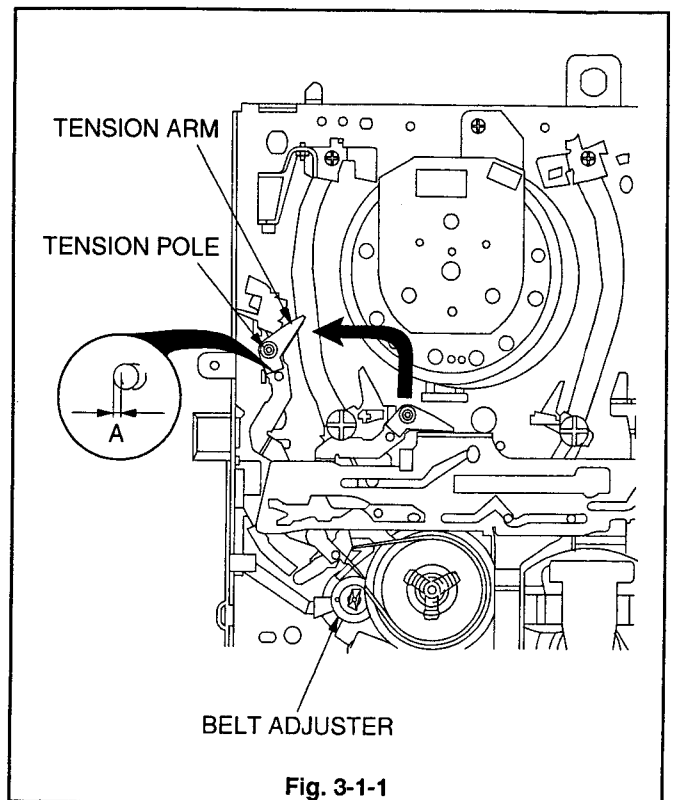

Fig. 3-1-1
2. Confirm that "A", the distance between the Holes in the TENSION ARM and the MAIN PLATE ASSY shown in the Fig. 3-1-1, is $0.6 \pm 0.5\text{mm}$.
5. Confirm that "A" shown in the Fig. 3-1-1 is $0.0 \pm 0.5\text{mm}$.